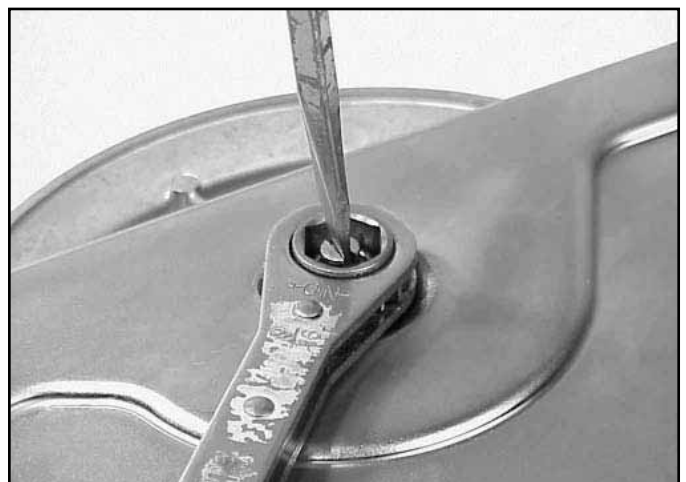

Fig 113
16. To separate the pulley from the pulley pivot assembly use a box end wrench and screwdriver to loosen the nut (Fig. 113).